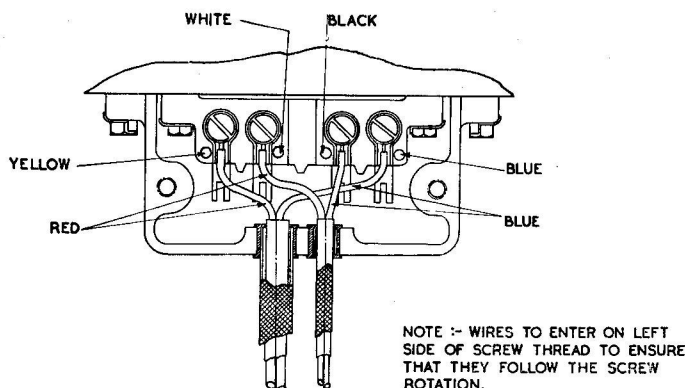

Fig. 3. Terminal connections
7. The terminal connections are shown in fig. 3. The a.c. winding is connected to the two outer terminals marked with a yellow and blue spot respectively. The exciting winding is connected to the two middle terminals marked with a white and a black spot respectively.